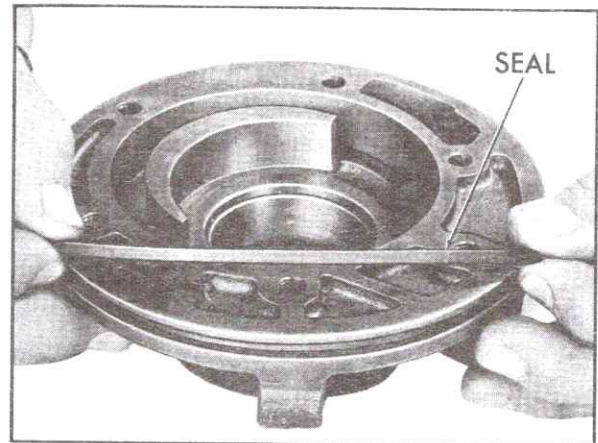

Fig. 7-194 Installing Pump to Case Seal
b. Install new pump to case square-cut O-ring seal, Fig. 7-194.